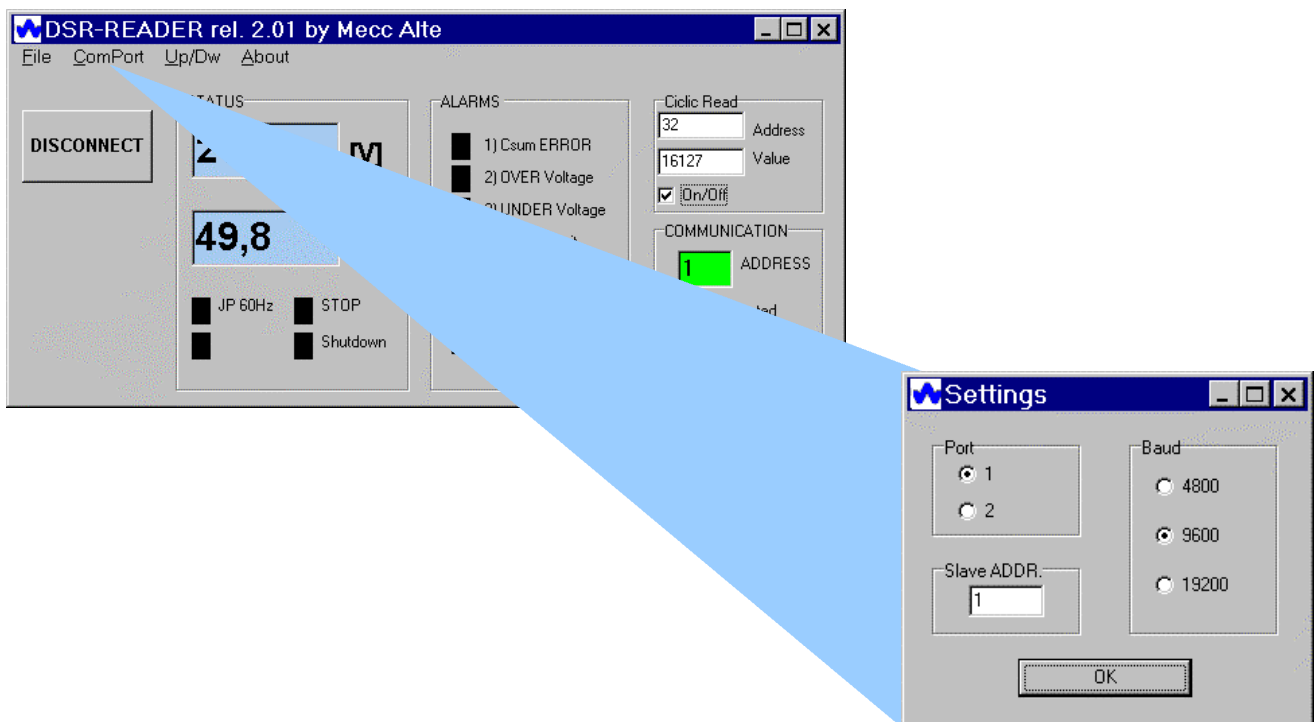

Fig. 17: DSR_Reader user interface and Settings menu
2. Settings opens a window (as shown in figure 17), through which several parameters, concerning communications, can be set: